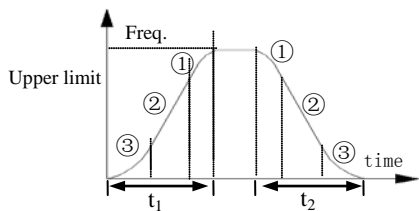

Fig.6-5 S curve Acc/Dec
1: S curve Acc/Dec. Output frequency increases or decreases as s curve shown as Fig.6-5.
S curve start stage time shown as Fig.6-5 (3). The curve slope is increasing from 0.
S curve ascent stage time shown as Fig.6-5 (2). The curve slope keeps constant.
S curve end stage time shown as Fig.6-5 (1). The curve slope is decreasing to 0.